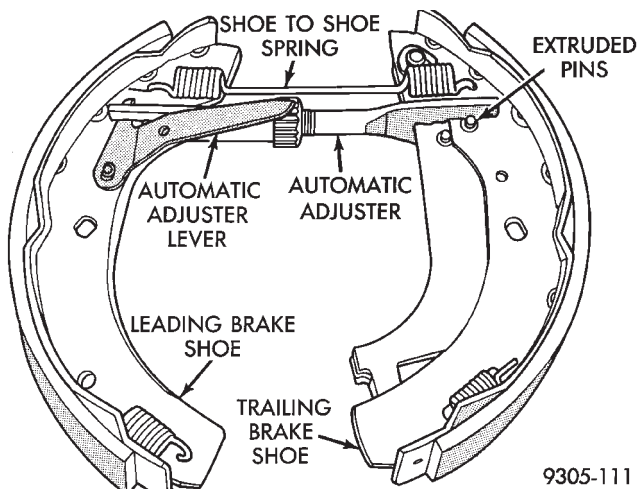

Fig. 76 Rear Brake Shoes Assembled (Left Rear Shown)
(2) Assemble leading and trailing brake shoe assemblies, top shoe to shoe spring, automatic adjuster lever and automatic adjuster (Fig. 76), before mounting on vehicle. Be sure automatic adjuster ends are above extruded pins in web of brake shoes as shown in (Fig. 76).